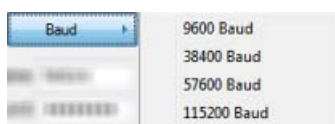

FIG. 19 Serial Connection option - Baud button
4. Click and hold the **Baud** command button (FIG. 19) to select the baud rate (9600, 38400, 57600 or 115200) for Serial communication (default = 38400):